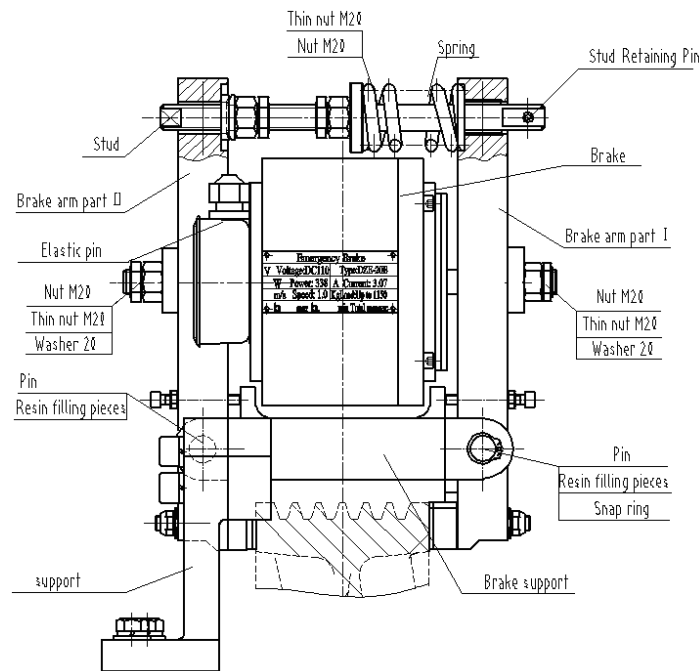

Figure 30 Emergency Brake Replacement
5. Loosen the Nut M20 and Thin nut M20, freeing the spring. See figure 30.
7. Remove the Nut M20, Thin nut M20 and Washer 20 (Both sides of brake coil). See figure 30.
8. Remove the two (2) snap rings, then use the screwdriver and Rubber hammer to push the Pin out of the Brake arm part I. See figure 30.
10. Remove the Stud (Including Nuts and spring). See figure 30.
11. Remove the broken Brake. See figure 30.
12. Loosen the (4) bolts M16X75 lock washers 16 and then remove the brake support and brake arm part II from the support. See figure 30.
14. Remove the Brake arm part II from the brake support. See figure 30.